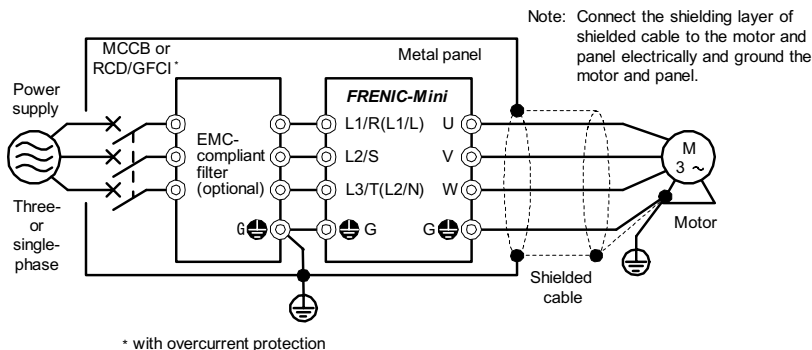

Figure 11.6 Installing the Inverter with EMC-compliant filter into a Metal Panel
- 3) If noise from the inverter exceeds the permissible level, enclose the inverter and its peripherals within a metal panel as shown in Figure 11.6.